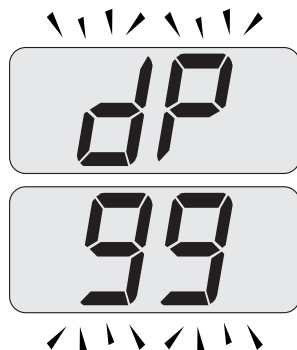

Fig. 10.21
- Press further key 18 to vary again the output in flue sweep mode: when the LCD display displays the letters **dP** that alternate with the heating water temperature value (e.g. **99**), the "flue sweep function" is at maximum output in domestic hot water mode (Fig. 10.21).